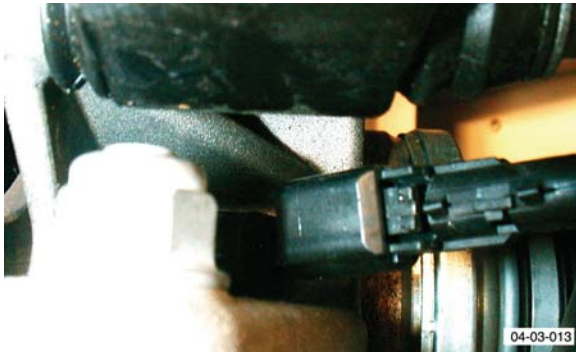

Fig. 2
8. Disconnect ABS sensor multiplug (see Fig. 2).